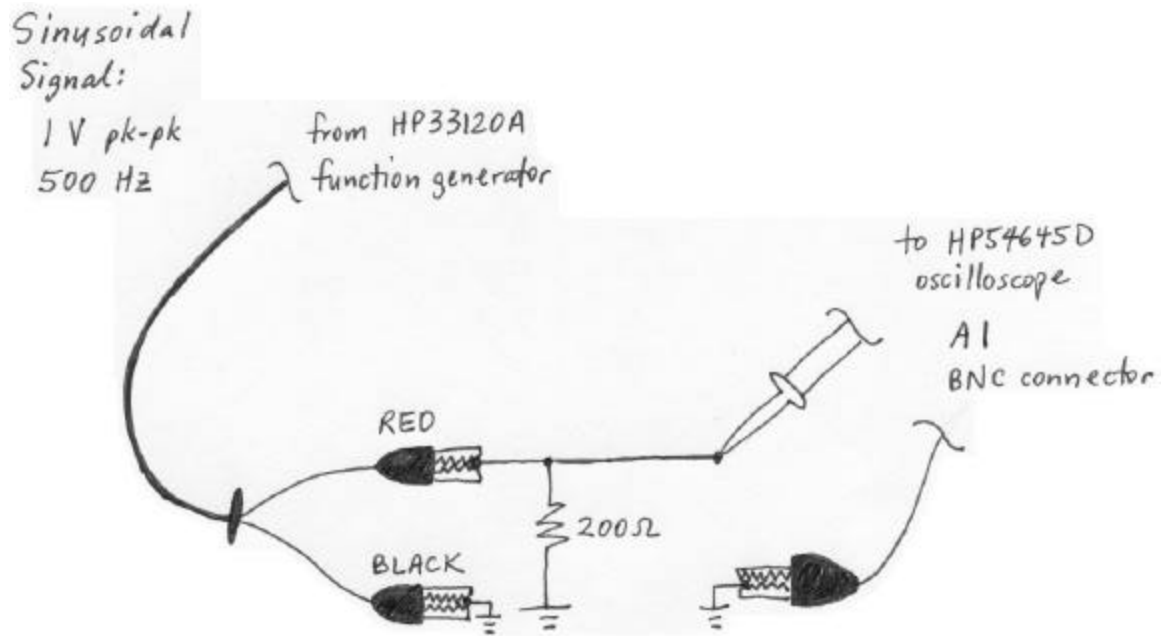

Figure 5: Set-up to graph a signal on the oscilloscope.
1. Build the circuit shown in Figure 5.